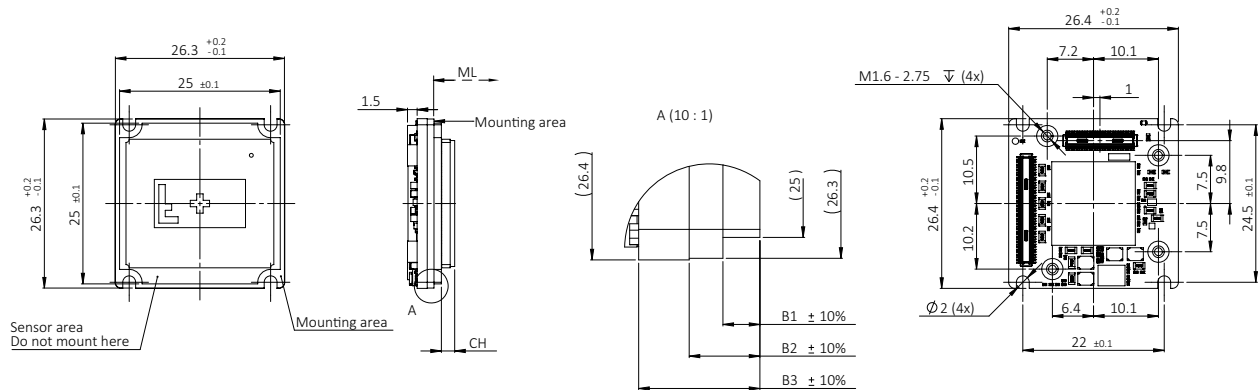

Figure 79: Bare Board (Alvium Flex) dimensions
Dimensions that are common between different models are shown in Figure 79, model specific dimensions are listed in Table 101. **Mechanical length** (ML) defines the mechanical distance from the mounting area to the lens mount front flange, without optical filter. **Components height** (CH) relates to the electronic components with maximum height, sometimes the sensor.